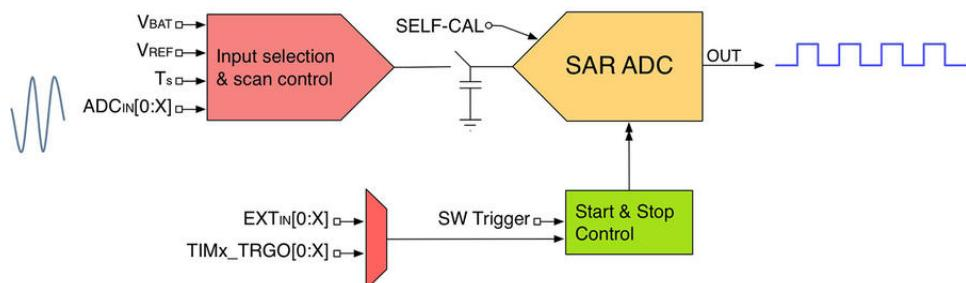
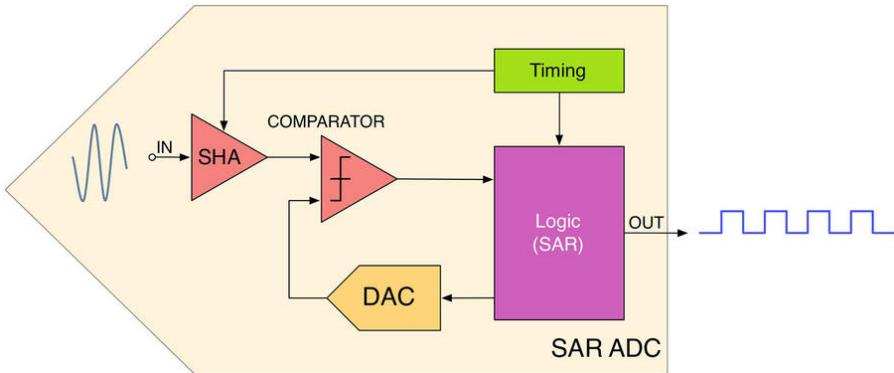
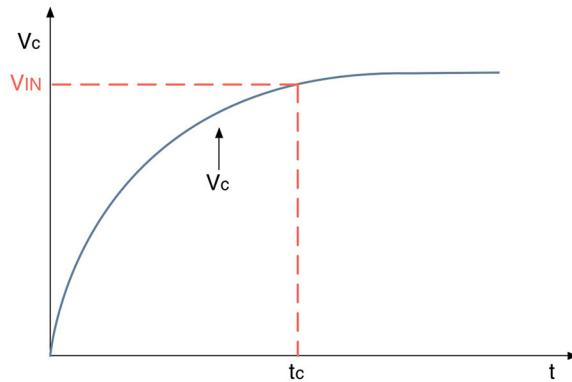

Figure 1: The simplified structure of an ADC
Figure 2: The internal structure of a SAR ADC
Figure 4: The effect of the ADC resistance on the analog signal source
Figure 1 schematizes the structure of the ADC². An *input selection and scan control unit* performs the selection of the input source to the ADC. Depending on the conversion mode (single, scan or
²Figure 1 is a really simplified representation of the ADC. Since the ADC implementation can differ a lot among the several STM32 families, here we are going to consider a simplified view that clearly describes how the ADC unit is designed.
Figure 1 also shows another important part of the ADC: the *start and stop control* unit. Its role is to control the A/D conversion process, and it can be triggered by software or by a variable number of input sources. Moreover, it is internally connected to the TRGO line of some timers so that time-driven conversions can be automatically performed in DMA mode. We will analyze this important mode of the ADC peripheral later.
Figure 2 shows the main blocks forming the SAR ADC unit shown in **Figure 1**. The input signal goes through the SHA unit. As you can see in **Figure 1**, a switch and a capacitor are in series with the ADC input. That part represents the *Sample-and-Hold* (SHA) unit shown in **Figure 2**, which is a feature available in all ADCs. This unit plays the important role to keep the input signal constant during the conversion cycle. Thanks to an internal timing unit, which is regulated by a configurable clock as we will see later, the SAR constantly connects/disconnects the input source by closing/opening the “switch” in **Figure 1**. To keep the voltage level of the input constant, the SHA is implemented with a network of capacitors: this ensure that source signal is kept at a certain level during the A/D conversion, which is a procedure that requires a given amount of time, depending on the conversion frequency chosen.
The charging of the internal capacitor network (that we indicate with C_{ADC}) is controlled by the switch in **Figure 1** having a resistance equal to R_{ADC} . With the addition of source resistance (that is, $R_{TOT} = R_{ADC} + R_{IN}$), the time required to fully charge the hold capacitor increases. **Figure 4** shows the analog signal source resistance effect. The effective charging of C_{ADC} is governed by R_{TOT} , so the charging time constant becomes $t_C = (R_{ADC} + R_{IN}) \times C_{ADC}$. If the sampling time is less than the time required to fully charge the C_{ADC} through R_{TOT} ($t_s < t_C$), the digital value converted by the ADC is less than the actual value. In general, it is necessary to wait a multiple of t_C to achieve a reasonable accuracy.
- **ClockPrescaler**: defines the speed of the clock (ADCCLK) for the analog circuitry part of ADC. In the previous paragraph we have seen that the ADC has an internal timing unit that controls the switching frequency of the input switch (see **Figure 2**). The ADCCLK establishes the speed of this timing unit and it impacts on the number of samples per seconds, because it defines the amount of time used by each conversion cycle. This clock is generated from the peripheral clock divided by a programmable prescaler that allows the ADC to work at $f_{PCLK}/2, 4, 6$ or $/8$ (refer to the datasheets of the specific MCU for the maximum values of ADCCLK and its prescaler). In some STM32 MCUs the ADCCLK can also be derived from the HSI oscillator. The value of this field affects the ADCCLK speed of all ADCs implemented in the MCU.